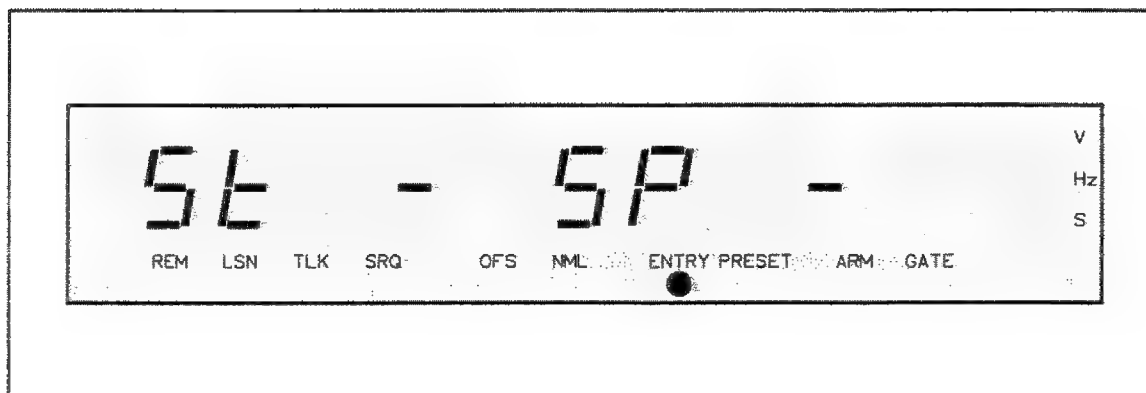
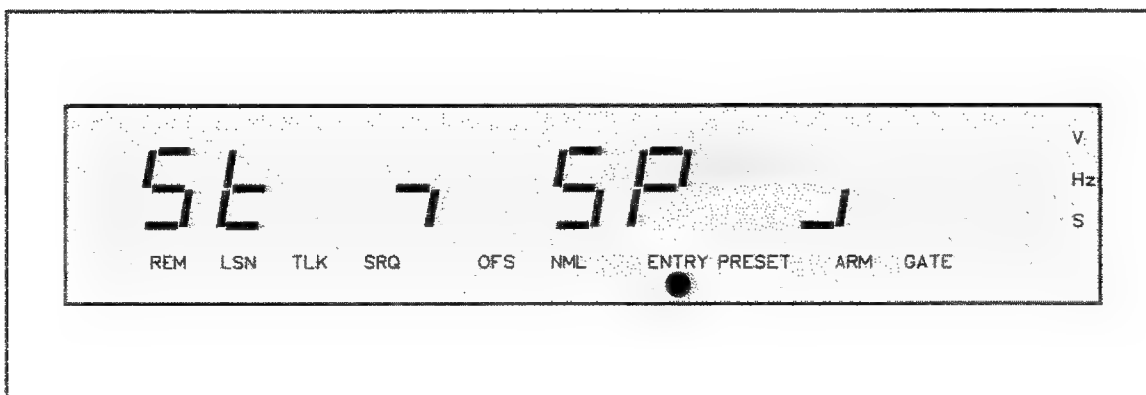

Figure 3-34. EXTERNAL ARM SELECT Entry Mode Display, Arming Off
Figure 3-35. EXTERNAL ARM SELECT Display, Arming States Selected
3-196. External arming can be used to specify the start and/or stop of a measurement, by a signal that is not directly involved in the measurement. When external arming is enabled, a signal must be connected to the ARM input connector to arm the gate to open and/or close. Pressing the EXT ARM SELECT key displays the arming status, shown in Figure 3-34, and allows the START ARM (open gate) and/or STOP ARM (close gate) states to be changed.
3-197. The arming status is represented as "St" (START ARM) and "SP" (STOP ARM). The states are defined by "—" (arming off), shown in Figure 3-34; and "┐" (arming set on negative slope), and "└" (arming set on positive slope) as shown Figure 3-35 slope). The channel A SLOPE key controls the START ARM, and the channel B SLOPE key controls the STOP ARM.
2. The counter displays, "St" for start arm, "SP" for stop arm, and the current start/stop arm states (see *Figure 3-35*).
3. The ENTRY light flashes, indicating the arming states may be changed (see *Figure 3-35*).
Figure 3-35 shows the EXT ARM SELECT entry mode display, with the START ARM set negative, and the STOP ARM set positive.